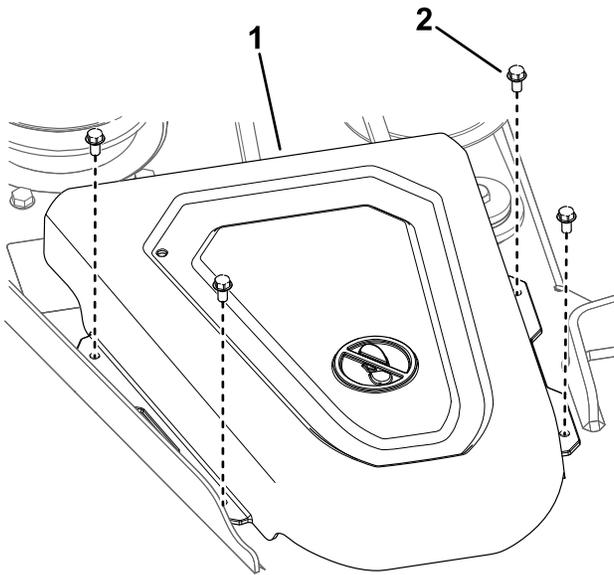

Figure 45
4. Remove the pulley covers (Figure 45).